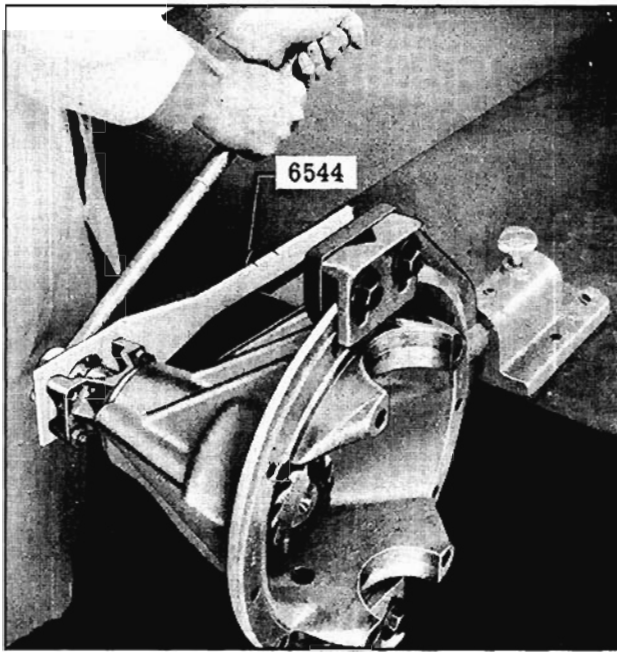

Fig. 10-21 Removing Companion Flange Nut
2. Turn the assembly to a horizontal position as shown in Fig. 10-21, then, using Tool J-6544 to hold companion flange, remove the companion flange nut using a 1-1/4" socket.